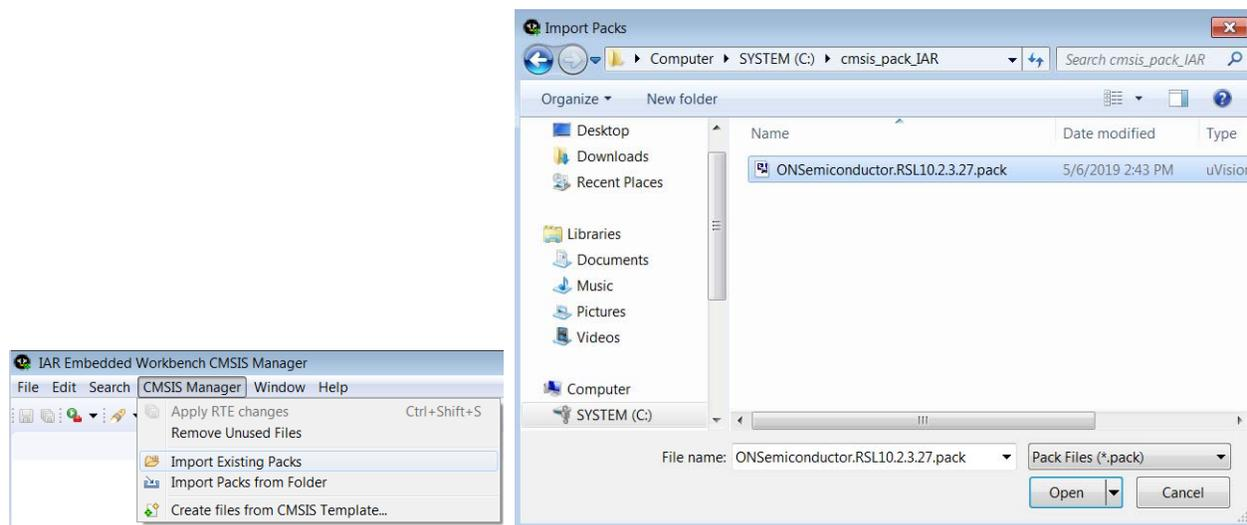

Figure 28. Installing the RSL10 CMSIS-Pack for the IAR Embedded Workbench IDE
3. Click on **CMSIS Manager > Import Existing Packs**, select your pack file *ON Semiconductor.RSL10.<version>.pack*, and click **Open** (see Figure 28). *<version>* is the RSL10 version, such as 2.3.27.